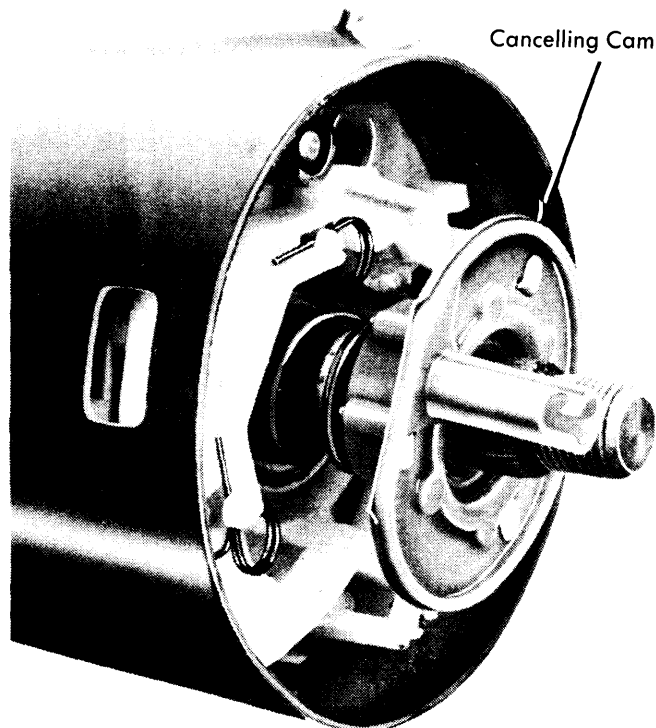

Fig. 7 Directional Signal Switch Cancelling Cam Position
12) Install thrust washer, upper bearing preload spring, and cancelling cam on steering shaft. Position cancelling cam as shown in illustration (see Fig. 7). Place directional signal switch in neutral position and install hazard warning switch knob.